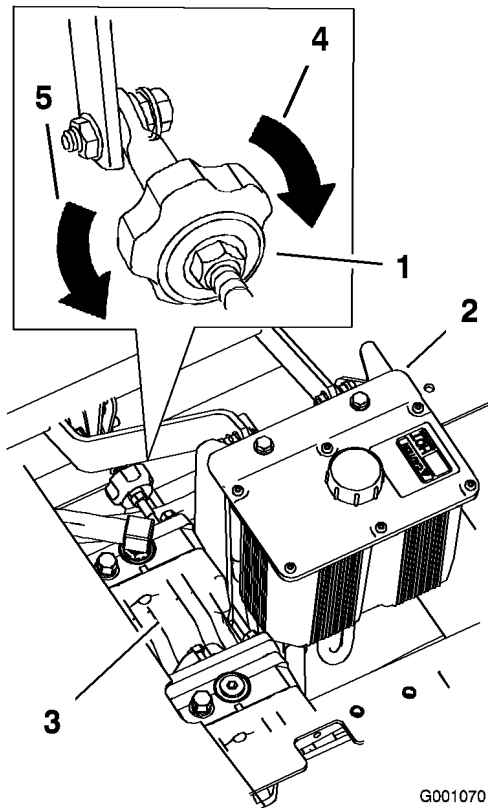

Figure 70
2. Adjust the pump rod length by rotating the knob, in the appropriate direction, until the wheel is still or slightly creeping in reverse (Figure 70).